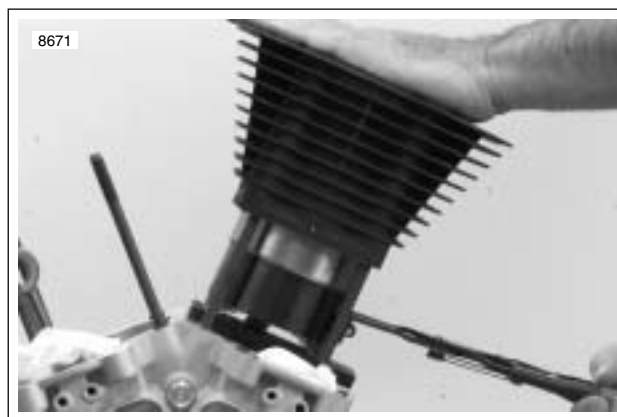

Figure 3-111. Compressing Piston Rings Using Piston Ring Compressor (Part No. HD-96333-51C)
9. See Figure 3-111. Compress the piston rings using PISTON RING COMPRESSOR (Part No. HD-96333-51C).